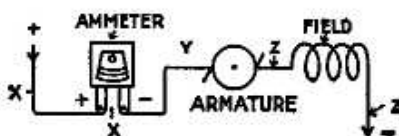

FIG. 1.
1. To measure current with an ammeter, connect the meter in series\* with the circuit in which the current is to be measured:—thus to measure the current of a series motor or dynamo, connect in at X, Y or Z, Fig. 1; as this is a simple series circuit the current in all parts is the same. In a shunt